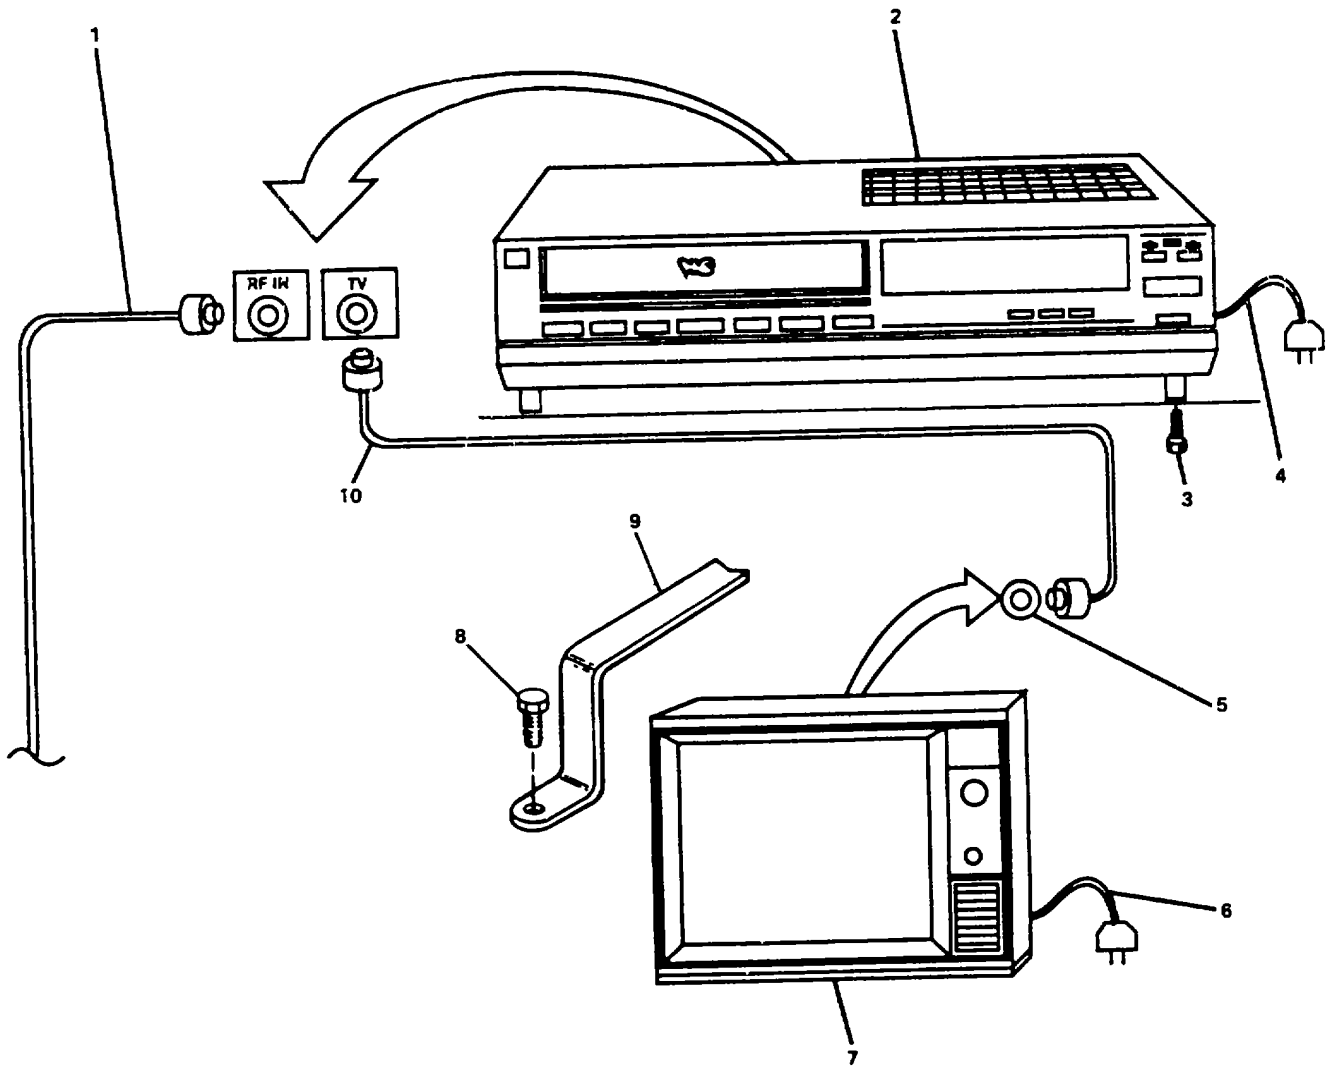

Figure 2-120. Replace Entertainment System.
- a. Remove video cassette recorder (VCR) plug (3, Figure 2-120) from wall outlet.
- b. Remove color television (TV) plug (6) from wall outlet.
- c. Disconnect cable (10) from TV jack on rear of VCR and input jack on rear of TV.
- d. Disconnect cable (1) going to RF IN on rear of VCR.
- e. Remove retaining screw (3) from bottom of shelf.
- f. Remove VCR (2).
- g. Remove screws (8) and retaining bracket (9) from TV (7).
- h. Remove TV (7).